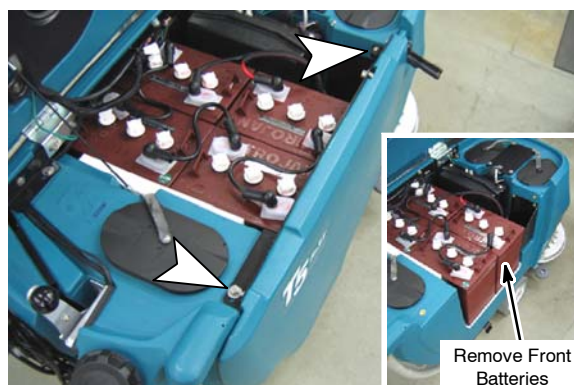

Fig. 1
3. Remove the (2) bolts that hold the machine's right side panel in place, then remove the side panel from machine (Figure 1).